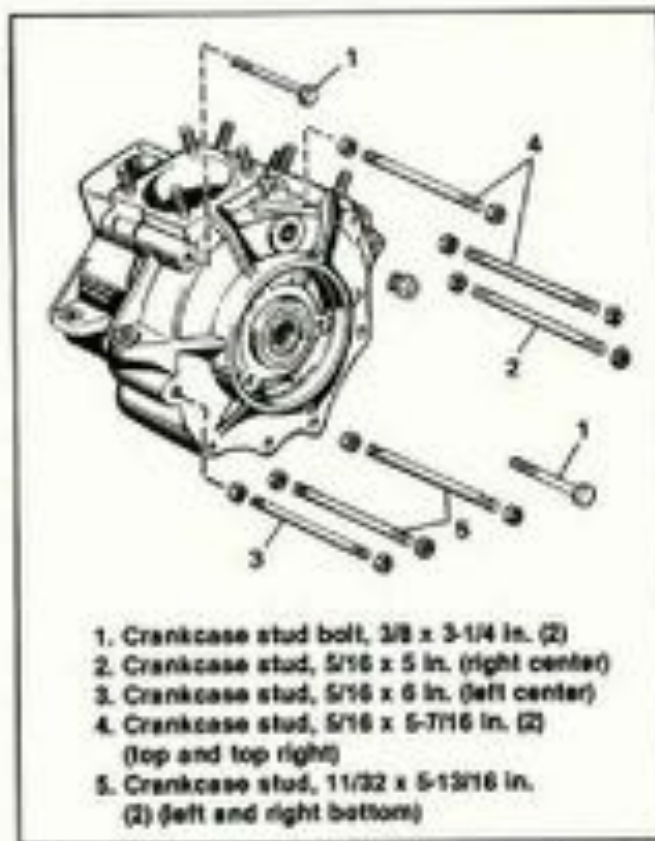

Figure 3-40. Crankcase Studs — Exploded View
- See Figure 3-40. Remove crankcase bolts and studs (1, 2, 3, 4, 5). If it is necessary to remove only one stud nut and slip stud and other nut out opposite side of crankcase.
- Mount flywheel and left case assembly on press table supporting case on parallel bars (Figure 3-40)